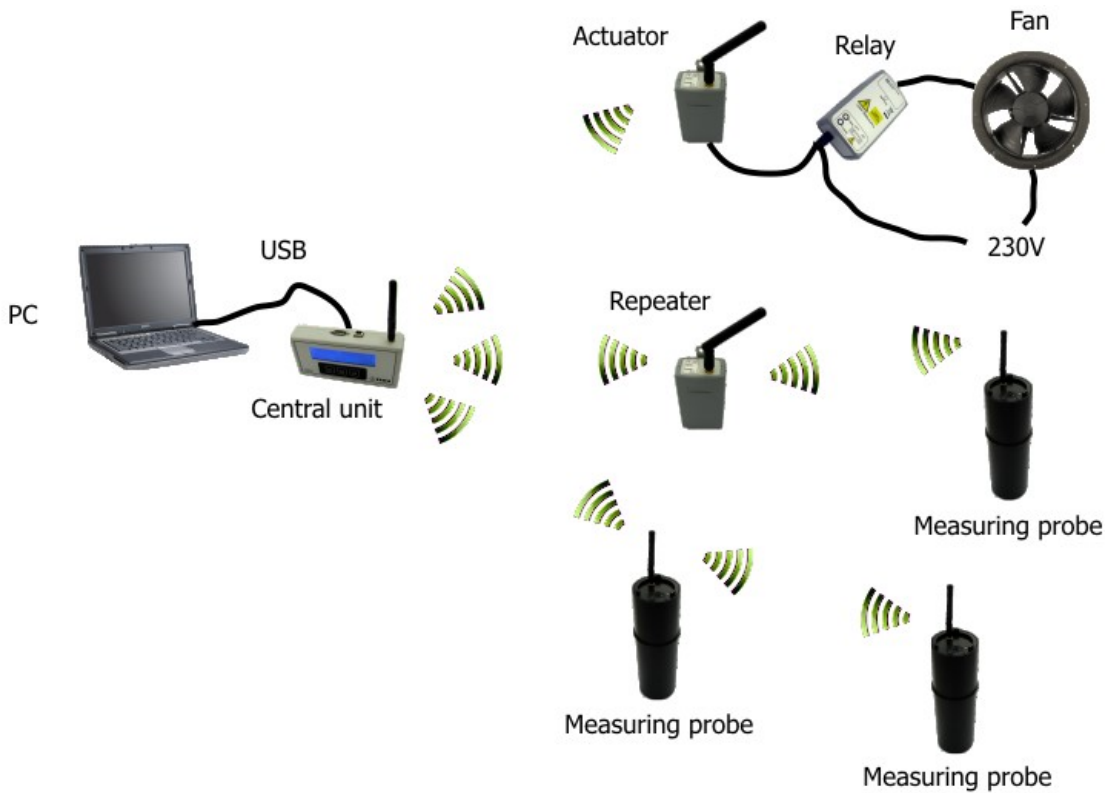

Figure 2 - TSR2 Wireless Radon Probe in TERA System for Regulating Radon Concentrations
- B) TERA System for Regulating Radon Concentrations (Figure 2)